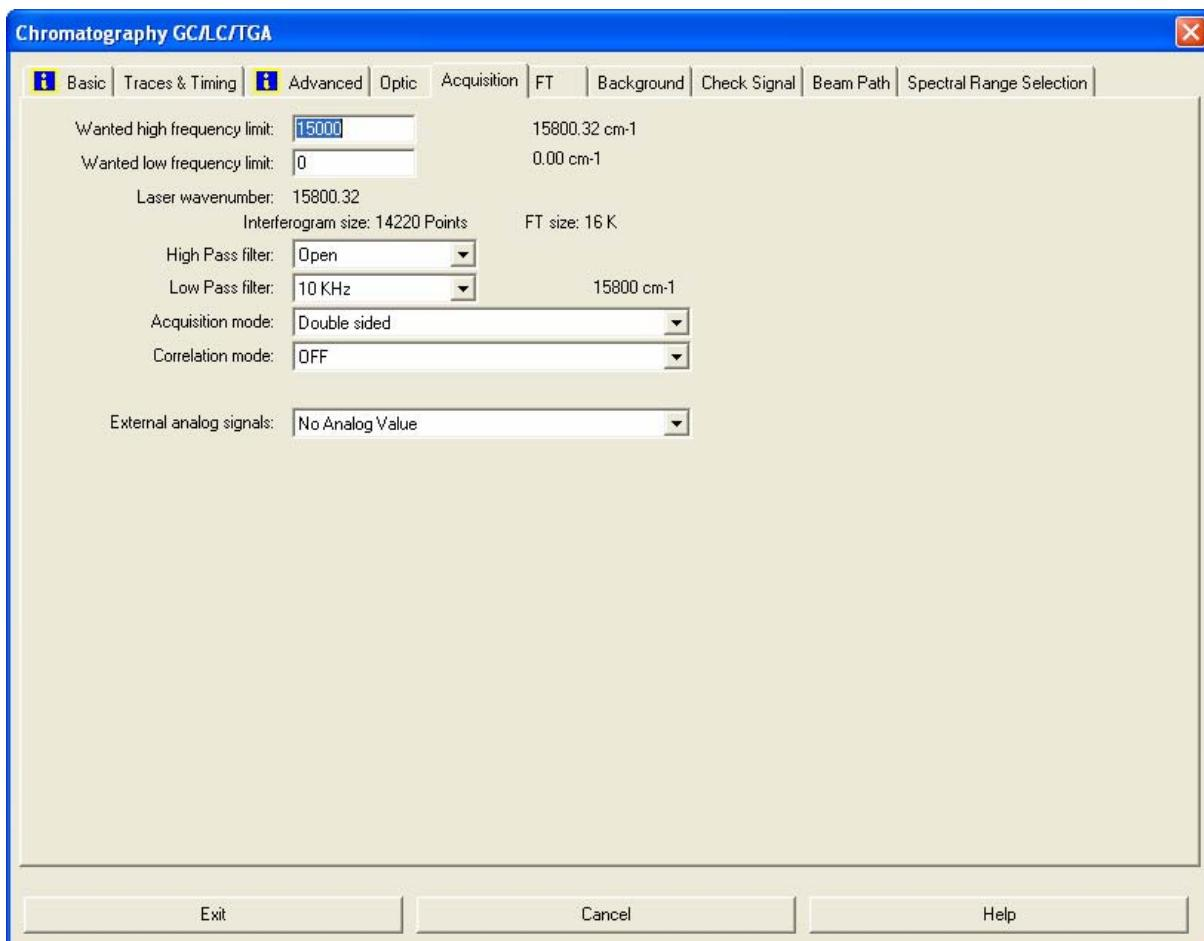

Fig. 7: Chromatography dialog window – Acquisition page
- Click on the “Acquisition” tab (fig.7). This page is identical to the “Acquisition” page of the standard “Measurement” dialog window. (For detailed information about this dialog window refer to the OPUS Reference Manual). Set the “Wanted high frequency limit” to 15000cm^{-1} and the “Wanted low frequency limit” to 0cm^{-1} . The “High Pass Filter” must always be set to “open”. For the “Low Pass Filter”, depending on the chosen scanner velocity (see “Optic” page), other settings might be useful as well. For the parameter “Correlation mode”, select the option “Off” and for the parameter “External analog signals” always select the option “No Analog Value”.